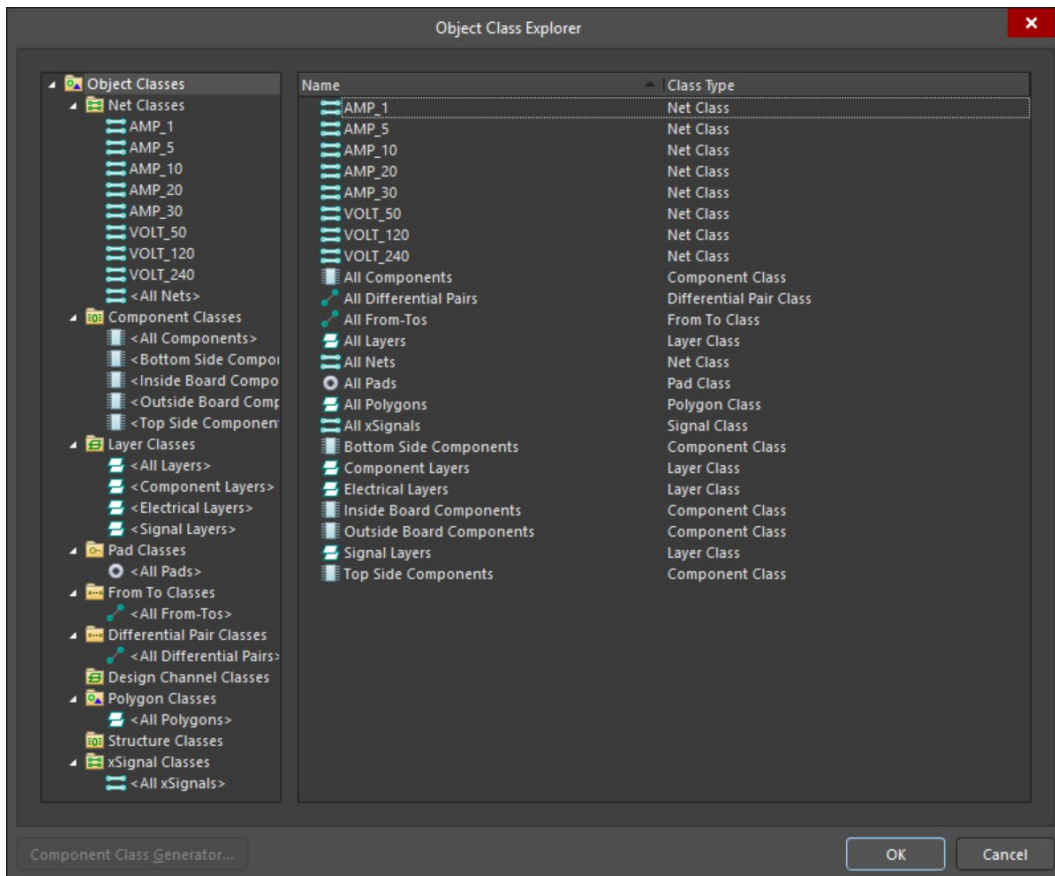

Figure 1. Object Class Explorer, note the pre-defined classes Amp and Volt
4. Access the command **Design » Classes** to open the *Object Class Explorer* as shown in Figure 1.